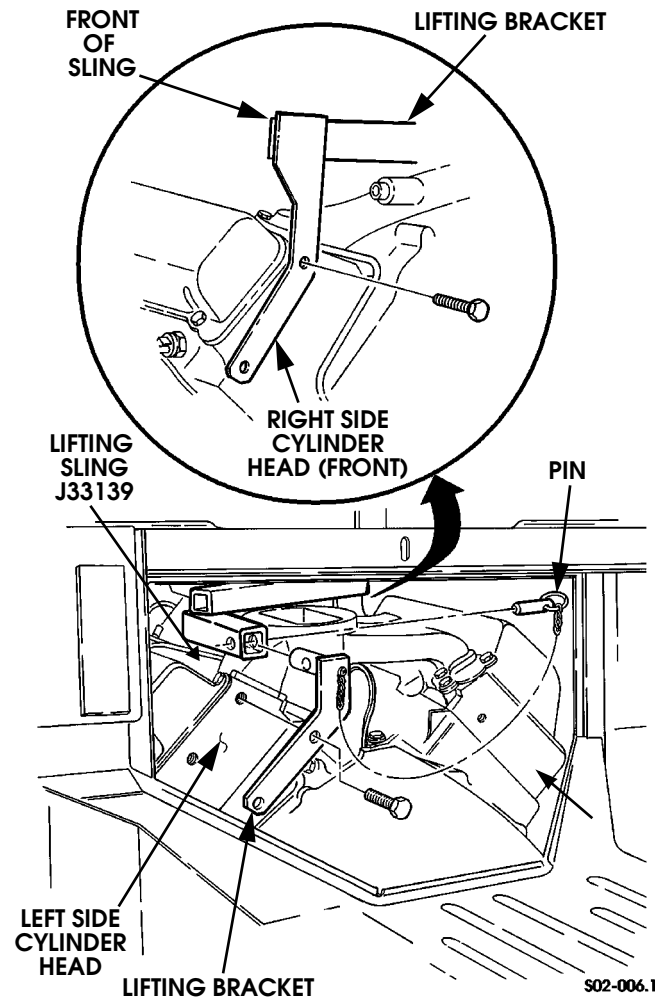

Figure 2-73: Lifting Bracket to Cylinder Head Attachment
41. Attach engine lifting bracket and sling J33139 to engine. Bracket is attached to rear of passenger side cylinder head (Figure 2-73). Use flat washers as needed on bolts used to attach lifting sling. Be sure bracket is secured to sling with pin as shown.